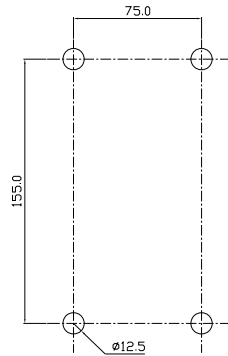

FIG.15
1. If you want to install the speed dome on the concrete wall, you need to make 12.5mm diameter 4 holes by drill like FIG.15 (Depth 37mm)